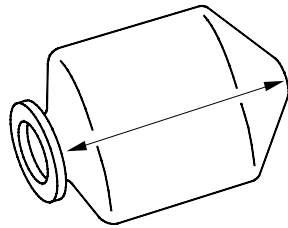

Figure 3 – Force all air out of water cell
- Place water cell on clean surface with opening to one end and flatten to force air out. Pull ends out flat (see Figure 3).